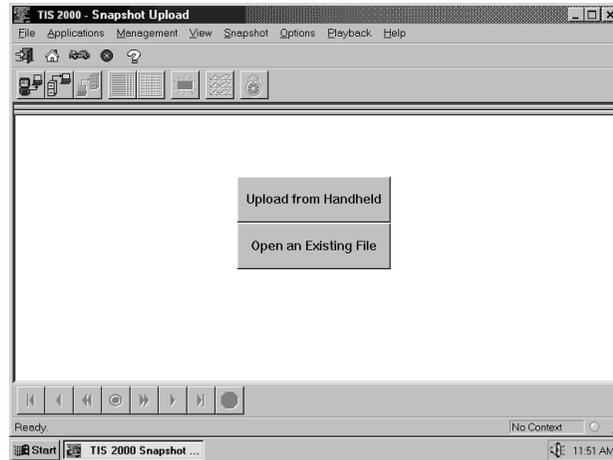

FIGURE 8-38. Snapshot Upload Screen Showing Two Choices
7. Select the “+” sign to see a list of different languages for each release (Figure 8-38).
The selected software appears in the right side of the screen (Figure 8-38).